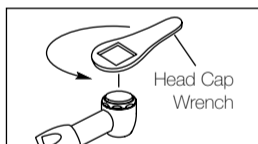

Fig. 7
- ③ Place cap wrench on the head cap and turn counterclockwise. Unscrew and separate the cap. (Fig. 7)